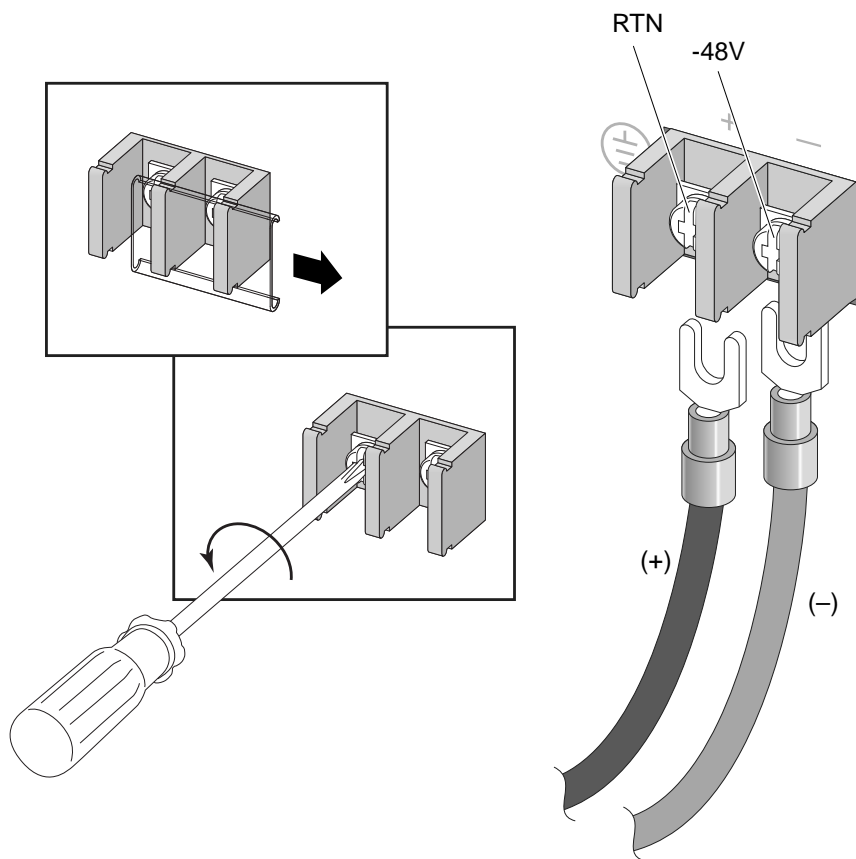

Figure 360: Connecting the DC Power Cables (Part 1)
- 2 Slide the cover off the terminal block (see Figure 360: Connecting the DC Power Cables \(Part 1\) on page 378).